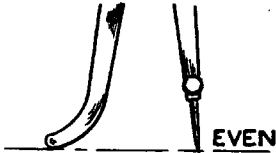

FIG. 12 ADJUSTING SCRIBER LEG WITH CALIPER REVERSED
- When scribing lines with the caliper reversed, set the scriber point to the full length of the caliper leg. (Fig.12).